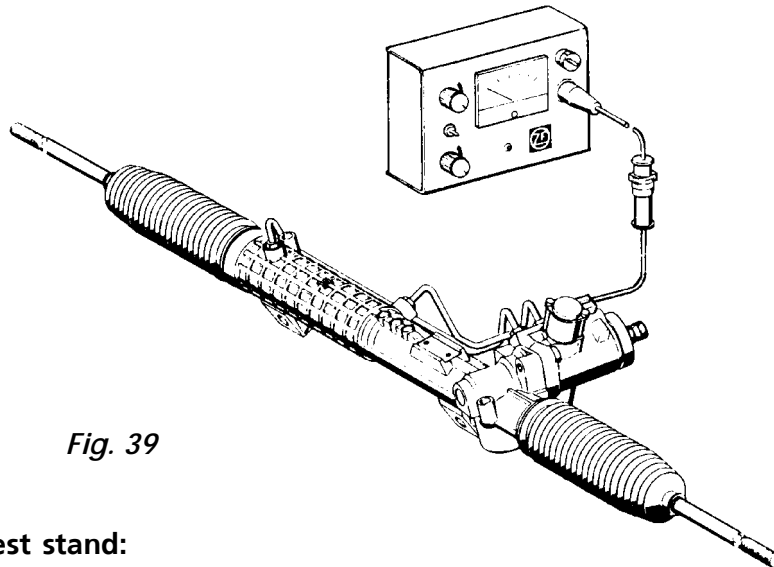

Fig. 39
Connect tool [17] to the mains supply and to the transducer (402) (see Fig. 39).